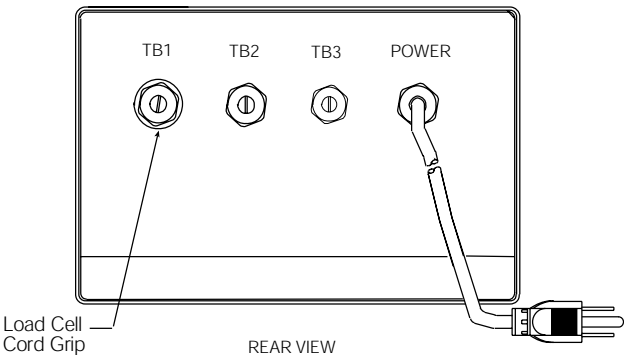

Figure 2-1. UMC222 backplate
2. Unplug all connections to the CPU board. See Figure 2-1 on page 4 for connector locations.